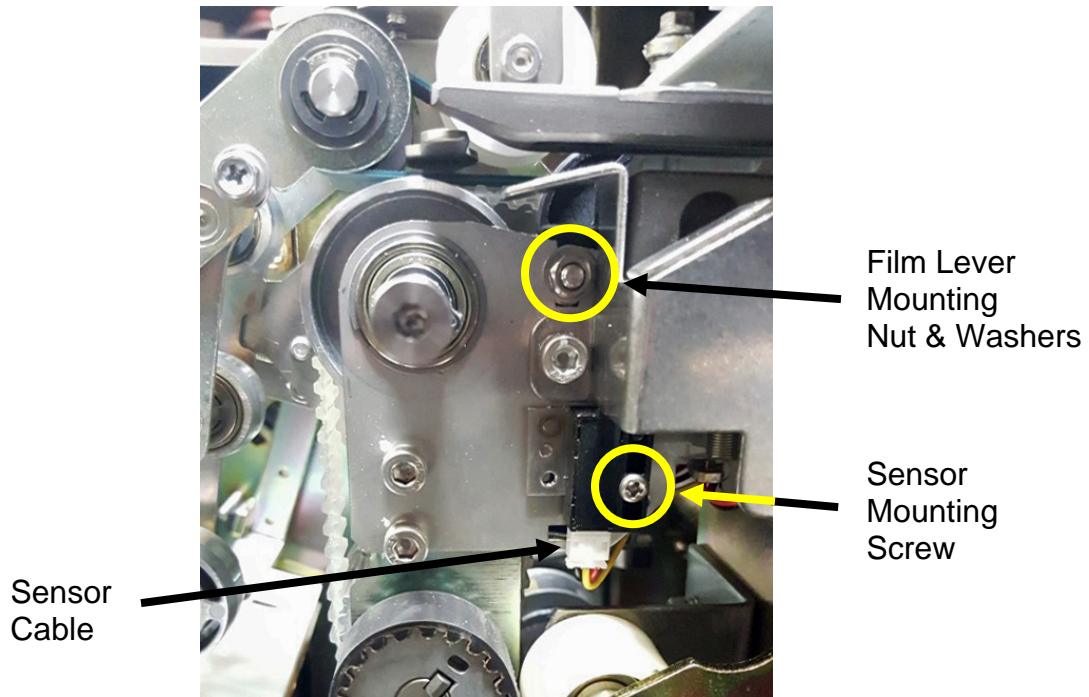

Fig 4. Film Detect Sensor and Film Lever Mounting
3. Disconnect the photo sensor cable then remove the mounting screw and remove the sensor. (Fig. 4)
4. Remove the nut and two washers securing the Film Detect Lever assembly. (Fig. 4)